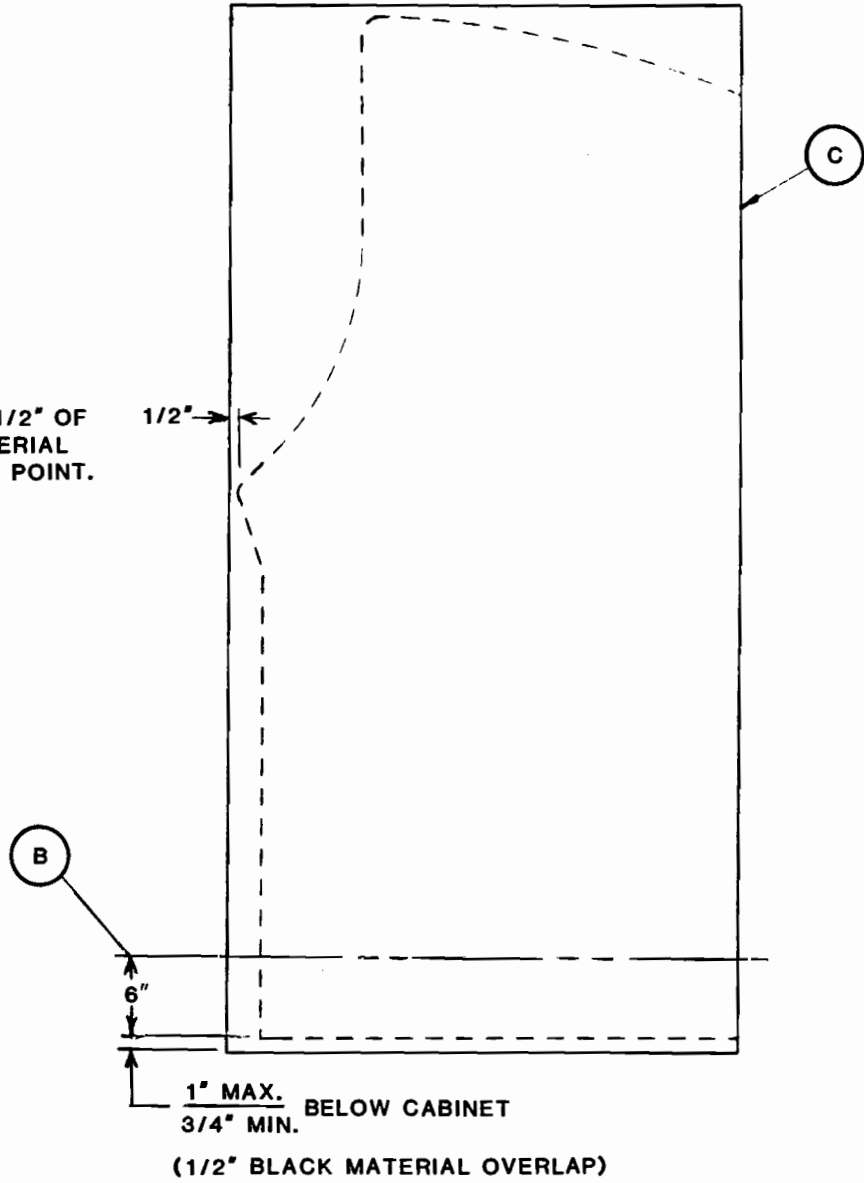

Figure 12
3. Install the two Side Decals *, referring to Figure 12, as follows (the left side & then the right side):